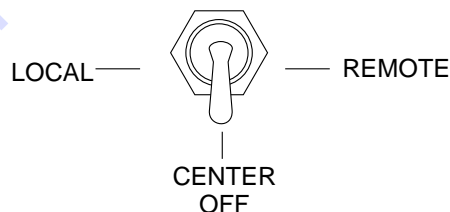

Figure 21. Pumping Control Switch (OFF)
3. Place the **pumping control switch** in the **CENTER OFF** position (Figure 21) for normal pumping operation.